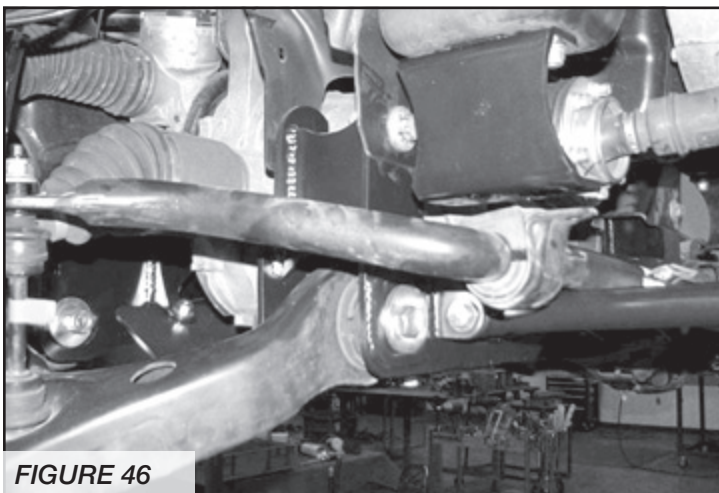

FIGURE 46
46. Install the factory sway bar using the Fabtech driver and pass brackets (FT30492) (FT30493). Install the factory sway bar link in to the end of the sway bar and lower control arm mounting. Torque Brackets and links to 52 ft.-lbs. **SEE FIGURE 46**